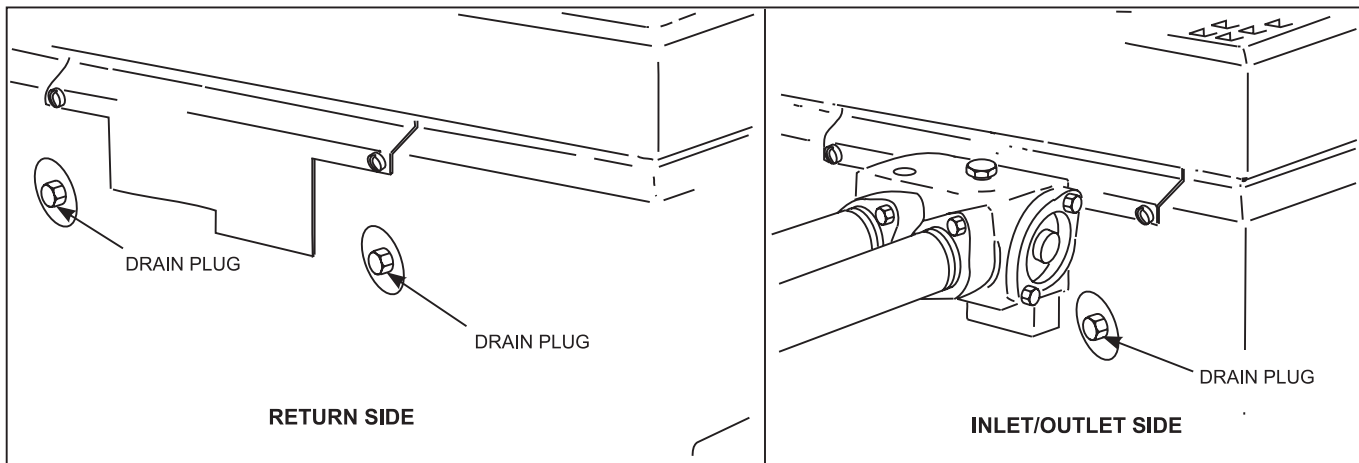

Figure 21. Heater drain locations
4. Remove the drain plug from the return header (see Figure 21), loosen the drain plug from the inlet/outlet header, and completely drain the heater before the first frost.